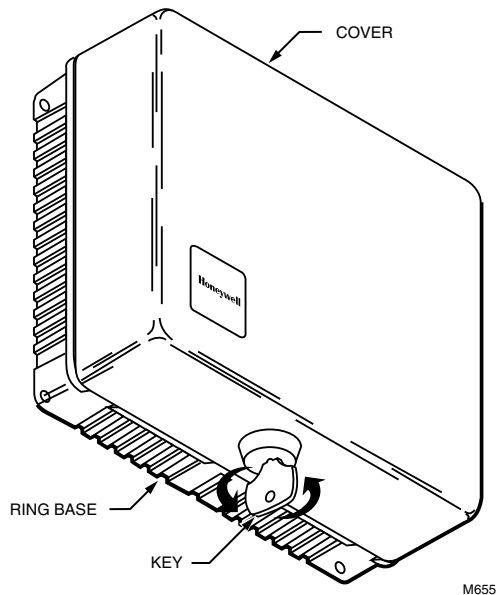

Fig. 8. Lock thermostat guard (TG510, TG511, TG512 shown).
- 6 Lock the thermostat guard by turning the key (provided) counterclockwise. See Fig. 8. The key can be removed only in the locked position.
- 10 Lock the thermostat guard by turning the key (provided) counterclockwise. See Fig. 8. The key can be removed only in the locked position.
- ⓫ Lock the thermostat guard by turning the key (provided) counterclockwise. See Fig. 8. The key can be removed only in the locked position.
- ⓮ Lock the thermostat guard by turning the key (provided) counterclockwise. See Fig. 8. The key can only be removed in the locked position.